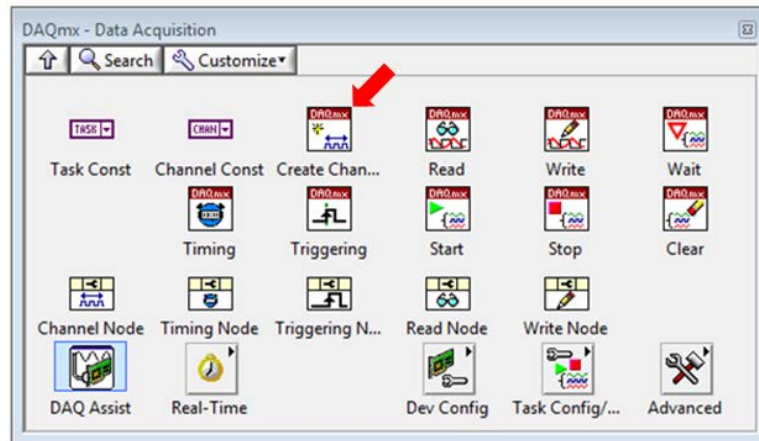

Figure 23. Pinning a palette enables you to click elsewhere in your code with the palette still visible.
4. To start, drag the **NI-DAQmx Create Channel** (red arrow in Figure 23) and place it in the position shown in Figure 24.